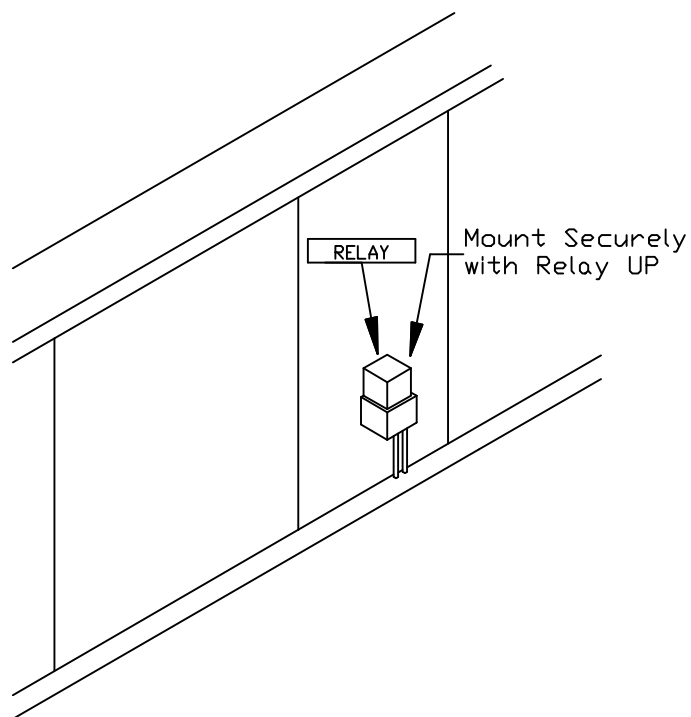

Figure 1. Relay Mounting
- 8) Attach the relay securely inside of the engine compartment using one Sheet Metal Screw (HDW01766). The relay must be positioned upright as shown in Figure 1.